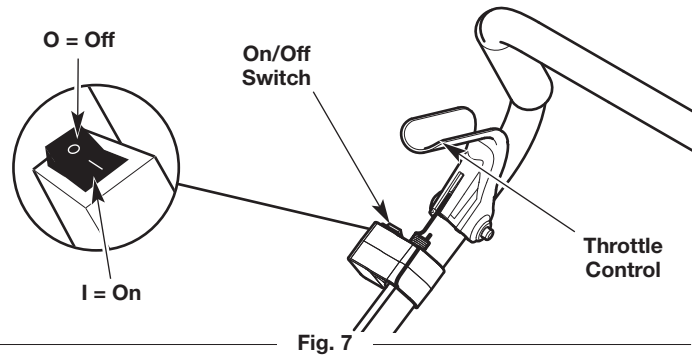

Fig. 7
NOTE: There is no need to turn the unit on. The On/Off switch is in the **On (I)** position at all times (Fig. 7).
4. Squeeze and hold the throttle control (Fig. 7).
2. Press and hold the On/Off switch in the **Off (O)** position until the engine comes to a complete stop (Fig. 7).